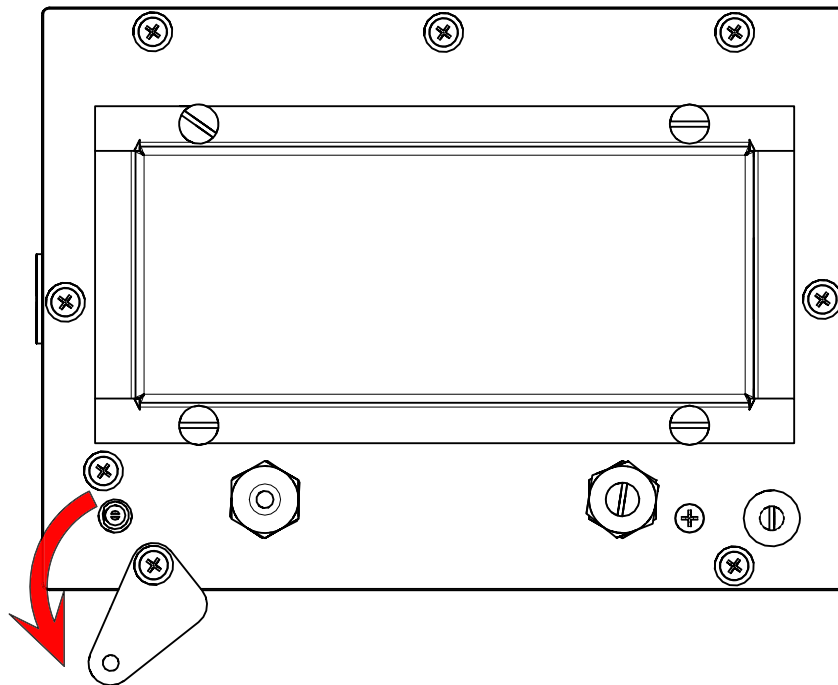

Figure 2-7. AC Adapter Port Cover
2. Loosen the bottom screw, then rotate the port cover to expose the AC adapter port (see Figure 2-7).